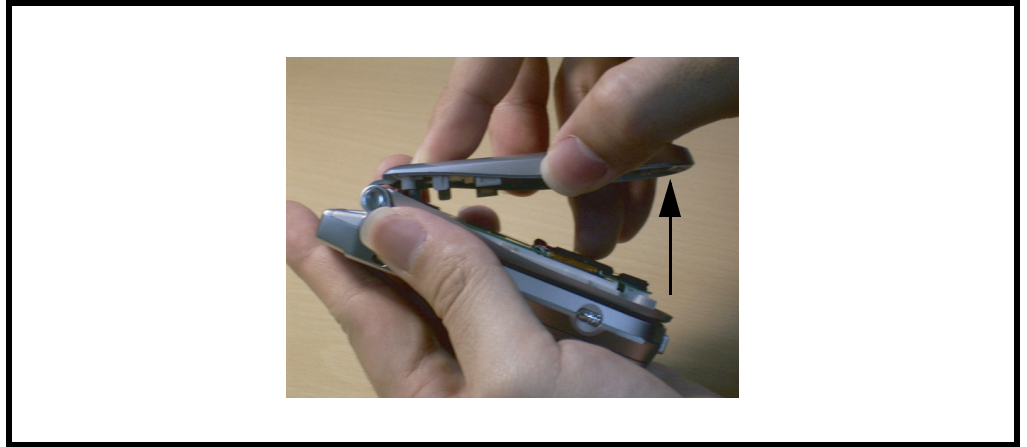

Figure 10. Removing the Front Housing Cover
4. Lift the bottom and then the top ends of the front housing cover away from the front case as shown in Figure 10.